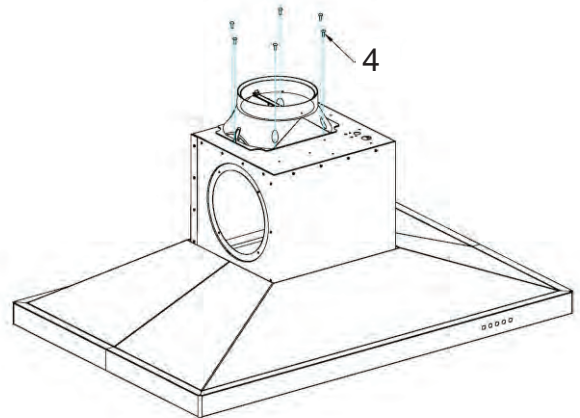

fig.2
**Step two:** Attach back draft damper to top of hood to prevent outside air from entering. fig.2